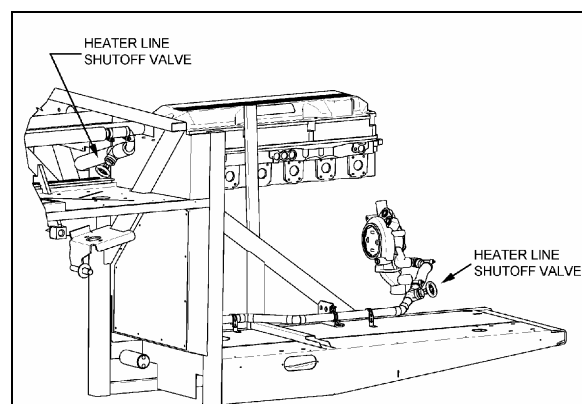
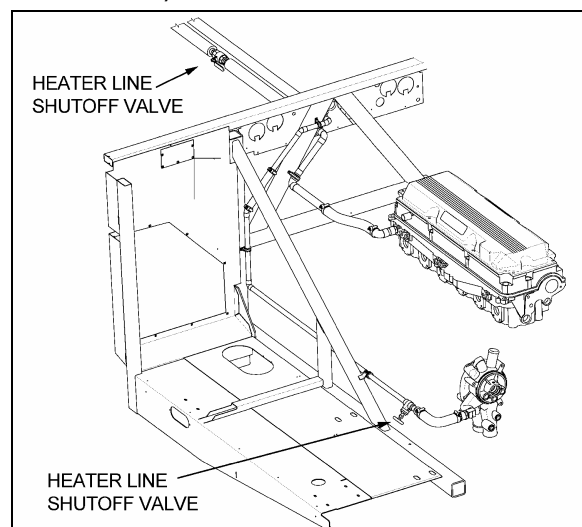

FIGURE 48: HEATER LINE SHUTOFF VALVES (CENTRAL HVAC SYSTEM)
FIGURE 49: HEATER LINE SHUTOFF VALVES (SMALL HVAC SYSTEM)
2. Close both heater line shutoff valves (Figure 48 & Figure 49). One is located in the engine compartment under the radiator fan gearbox, while the other one is located behind the L.H. hinged rear fender near the preheater. Refer to "Preheater System" in this section to gain access to the heater line shutoff valve.